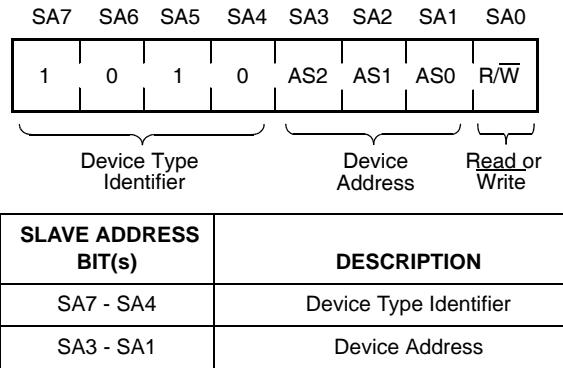

FIGURE 13. SLAVE ADDRESS (SA) FORMAT
Identifier 1010, and the Device Address bits matching the logic state of pins A2, A1, and A0. See Figure 13.
Following a START condition, the master must output a Slave Address Byte (Refer to Figure 13). This byte includes three parts:
- The LSB (SA0) is the R/W bit. This bit defines the operation to be performed on the device being addressed. When the R/W bit is "1", then a Read operation is selected. A "0" selects a Write operation (Refer to Figure 13)